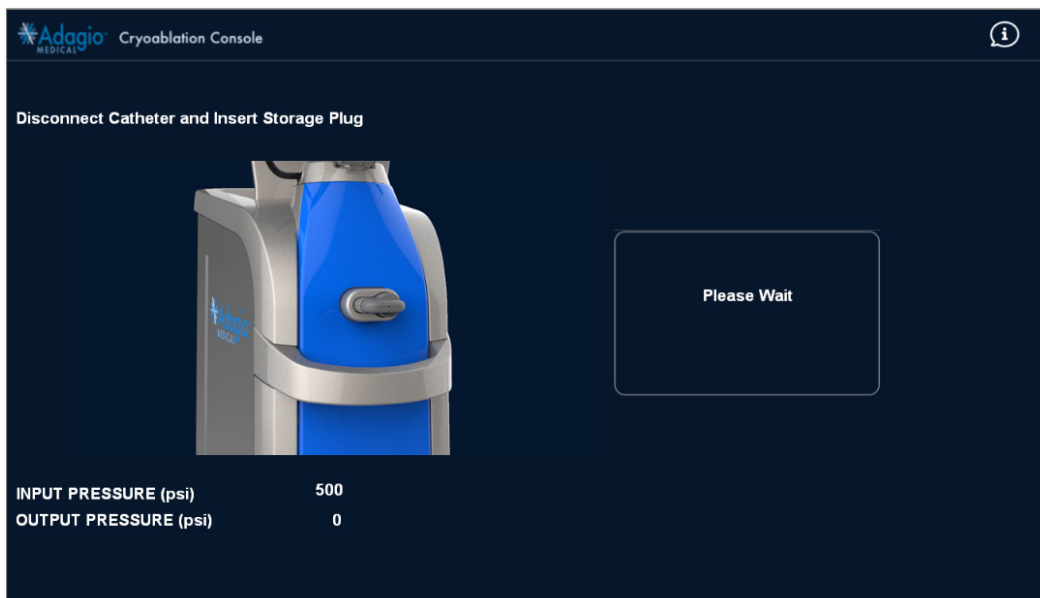

Figure 56 – Console Disconnect Catheter Screen Image
3. Console will depressurize the Catheter and automatically unlock the catheter connection (*Figure 56*).